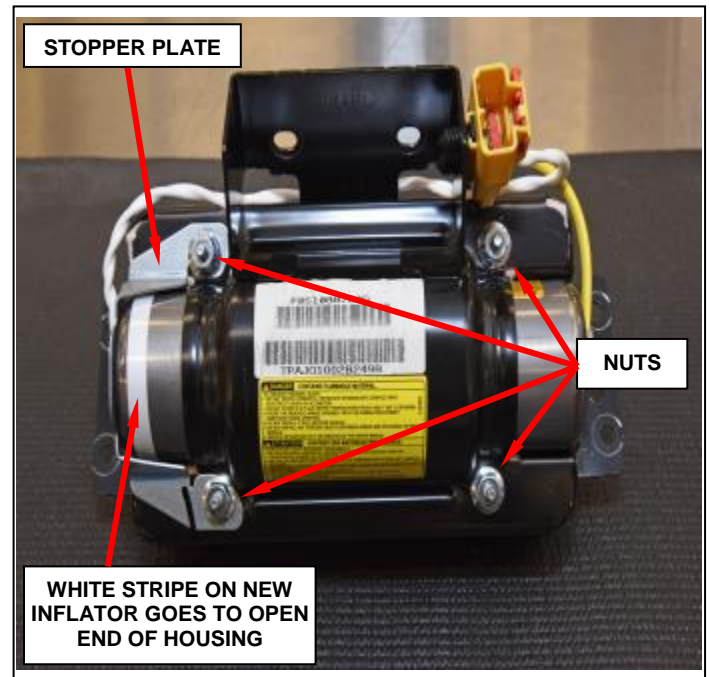

Figure 81 – Stopper Plate and Nuts
o. Position the stopper plate to the airbag housing (Figure 81).
p. Install the four **NEW** mounting nuts to the airbag housing and tighten to 53 in. lbs. (6 N·m) (Figure 81).